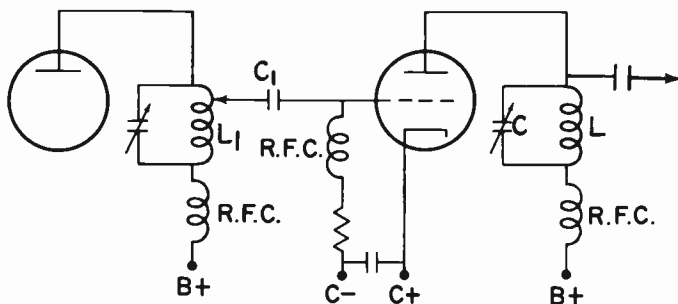
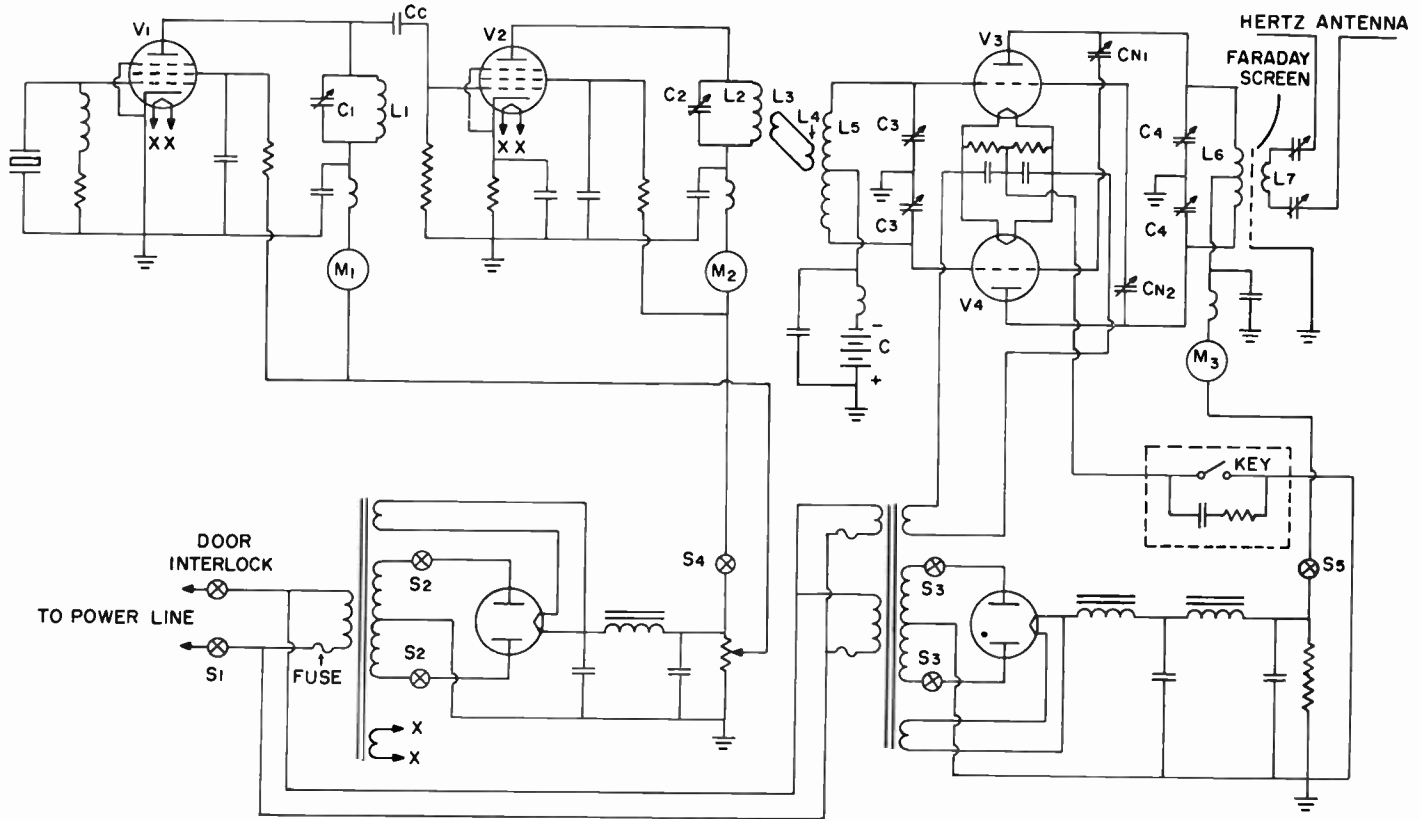

FIG. 13-13. A FREQUENCY MULTIPLIER.
FIG. 13-15. COMPLETE CW TRANSMITTER.
Fig. 13-13 illustrates a basic frequency multiplier. Except for the fact that it is not neutralized, it resembles any other triode amplifier. The values of the voltages and components are what make it a frequency multiplier. The complete C. W. transmitter of Figure 13-15 contains a FREQUENCY DOUBLER (V2). We call it a frequency doubler because the plate tank circuit is tuned to the second harmonic of the fundamental. If the plate tank were tuned to three times the fundamental, we would call it a FREQUENCY TRIPLER. Note that there is no neutralizing capacitor in the frequency multiplier, even though a triode is being used. This is because the plate and grid circuits of a frequency multiplier are tuned to different frequencies and there is no danger of oscillation due to feedback. Other characteristics of a
**COUPLING BETWEEN STAGES.** There are three types of stage-to-stage coupling used in transmitters. The first type is called CAPACITY COUPLING and is shown in Fig. 13-13.  $C_1$  is the coupling capacitor. It is similar to the resistance-capacity coupling that is used in audio amplifiers. Capacitive
The third method of coupling RF from stage to stage is called **LINK COUPLING**. Link coupling is a very efficient form of coupling and it may be used between the oscillator and RF amplifier stage, between two RF amplifier stages, between an RF amplifier stage and the final RF amplifier stage, and between the final RF amplifier stage and the antenna coupling network. Fig. 13-15 shows the doubler ( $V_2$ ) link coupled to the power amplifier ( $V_3, V_4$ ). The actual coupling consists of a pair of wires with a loop of two or three turns at each end. The chief advantage of this form of coupling is that two stages which are physically some distance from each other, can be coupled. Capacitive or inductive coupling methods could not be used in such a case since long wires cause heavy losses at high frequencies. Long leads have sufficient inductive reactance at high frequencies to build up a counter-EMF and cut down the signal strength to the next stage. In link coupling, however, no counter-EMF is induced in the long leads since the current in one leg at a certain instant is opposite in direction to the current in the other leg at the same instant. The resulting magnetic fields are out of phase and therefore, cancel each other. The result is that no back EMF or inductive reactance is created, and the signal is coupled to the next stage without loss.
**A TYPICAL CW TRANSMITTER.** Fig. 13-15 is a schematic of a typical **MEDIUM POWER CW TRANSMITTER**. It consists of two power supplies, an oscillator, a frequency doubler and an RF push-pull amplifier. Let us first discuss the power supplies.
**OSCILLATOR AND FREQUENCY DOUBLER.** The oscillator in Fig. 13-15 is a conventional pentode crystal-controlled oscillator. M1 is a milliammeter which is placed in the plate circuit to measure plate current and to tune the plate tank circuit to resonate with the crystal frequency. Correct plate tank tuning is indicated by a dip reading (minimum reading) in M1. The oscillator is capacity-coupled to the frequency doubler. The frequency doubler is an RF amplifier whose plate circuit is tuned to twice the oscillator frequency. Since it is located between the oscillator and the final amplifier, it is called a **BUFFER STAGE**. It isolates the oscillator from the final amplifier and thereby prevents changes that occur in the final amplifier from affecting the oscillator. The final amplifier handles large amounts of power and it is important to keep these large power variations as far away as possible from the oscillator. The buffer serves this purpose and thereby improves the frequency stability of the oscillator. Notice that there is no neutralization of the frequency doubler. There are two reasons for this. As we mentioned previously, frequency multipliers do not require neutralization since the grid and plate circuits are tuned to different frequencies. Also, since the tube used is a pentode, the grid-plate capacitance is very small and the plate to grid feedback will therefore be negligible. Neutralization of a pentode or tetrode is only necessary at very high frequencies.
**TUNING THE TRANSMITTER.** It is important to know how to tune up a transmitter. We will use the transmitter of Fig. 13-15 in describing the complete procedure in tuning up a basic CW transmitter. The tuning procedure is as follows:
(1) The main switch S1 is closed to allow the filaments of all the tubes in the transmitter to heat up. Since the rectifier tubes are of the mercury-vapor type, the filaments of these rectifiers must be heated for several minutes before voltage is applied to the rectifier plates.
(2) After the filaments have heated up for a few minutes, switch #2 is closed. Switch #2 is a double pole single throw switch which applies AC voltage to the plates of the rectifier tube of the oscillator- buffer power supply. The oscillator tube now has plate voltage and is ready to be tuned.
(3) The oscillator is tuned by varying capacitor C1 and observing meter M1 for the characteristic crystal oscillator dip. The oscillator plate tank circuit is now resonant to the crystal frequency.
(4) By closing switch #4, we apply B+ voltage to the plate of the buffer-doubler stage. This stage is now ready for tuning.
(5) The plate of the buffer-doubler stage is tuned by adjusting C2 until the plate milliammeter, M2, dips. The tuned circuit, C2, L2, is now resonant to the second harmonic of the oscillator frequency.
(6) The push-pull power amplifier stage is now ready to be neutralized. We use either of the two neutralization methods previously described. Neutralizing capacitors CN1 and CN2 are adjusted at the same time.
(7) Switch S3 is closed next. This applies AC voltage to the plates of the
(8) The dummy antenna (not shown) is next hooked up to L7 and the last stage is then retuned for a minimum reading of M3.
(9) The dummy antenna is removed and the actual antenna is hooked up to the transmitter. C1, C2, C3 and C4 are retuned slightly and the transmitter is now ready for operation.
**3 TRANSISTORIZED PUSH-PULL RF AMPLIFIER.** Fig. 13-16 illustrates a Class B push-pull RF amplifier. It operates in a manner similar to the push-pull amplifier used in the complete CW transmitter of Fig. 13-15. The input signal from the previous stage is fed to the input tuned circuit L1C1. From here it is applied to the bases of the transistors. The output is coupled from the output tuned circuit C2L2. The opposite ends of the output tuned circuit are connected to the collectors. R1 and R2 provide the base bias for the transistors so as to bias them at approximately cut-off for Class B operation. R3 is the emitter resistor that provides stabilization against thermal runaway.